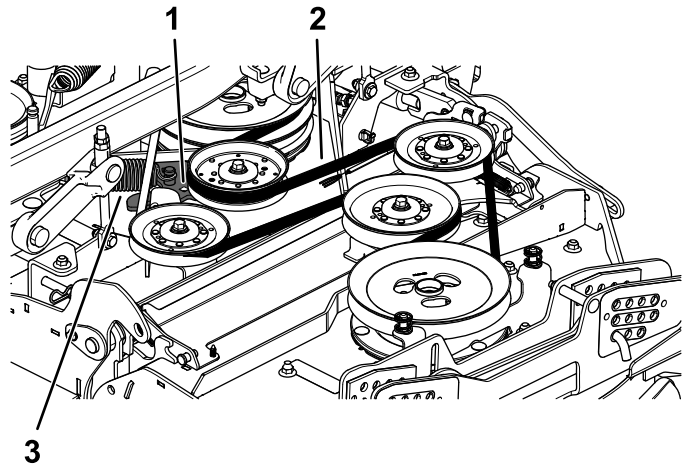

**Figure 60**
4. Remove the 2 lynch pins from the outer belt cover and remove the outer cover (Figure 60).
5. Rotate the inside belt cover upward (Figure 60).